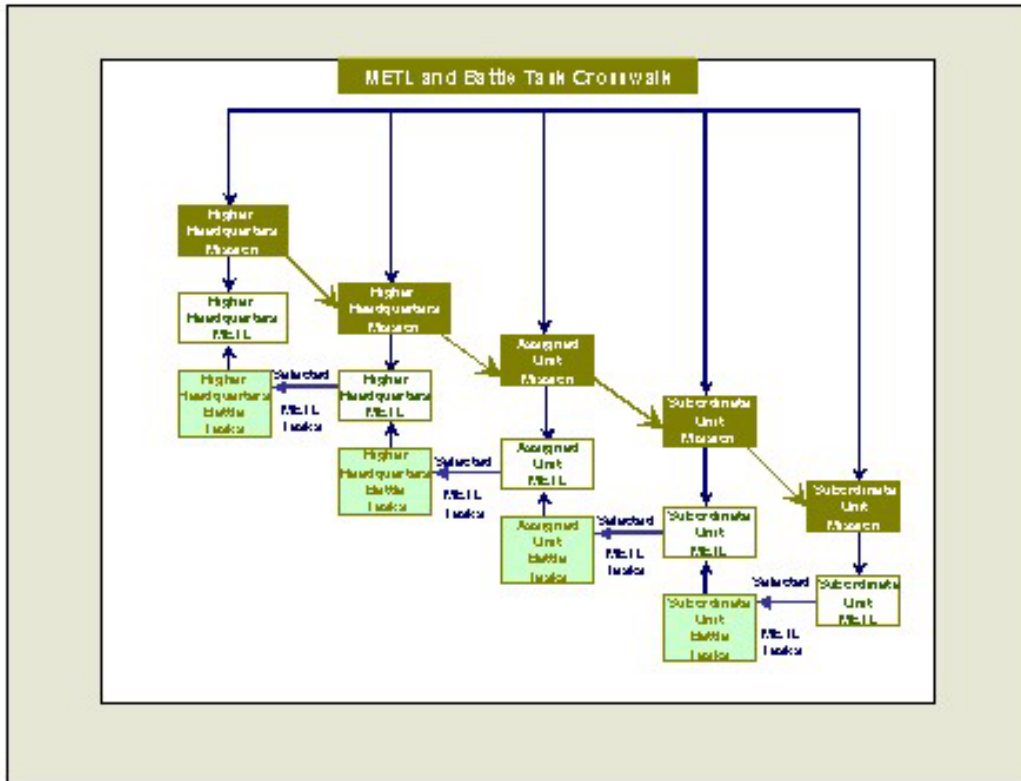

Figure 1-4. Relationships between Mission, METL, and Battle Task
b. **Battle Tasks.** After review and approval of subordinate organizations' METL, the senior commander selects battle tasks. A battle task is a staff or subordinate organization mission essential task that is so critical that its accomplishment will determine the success of the next higher organization's mission essential task. Battle tasks are selected for each METL task. Figure 1-4 depicts the relationship between wartime missions, METL, and battle tasks. Battle tasks allow the next higher commander to define the training tasks that --